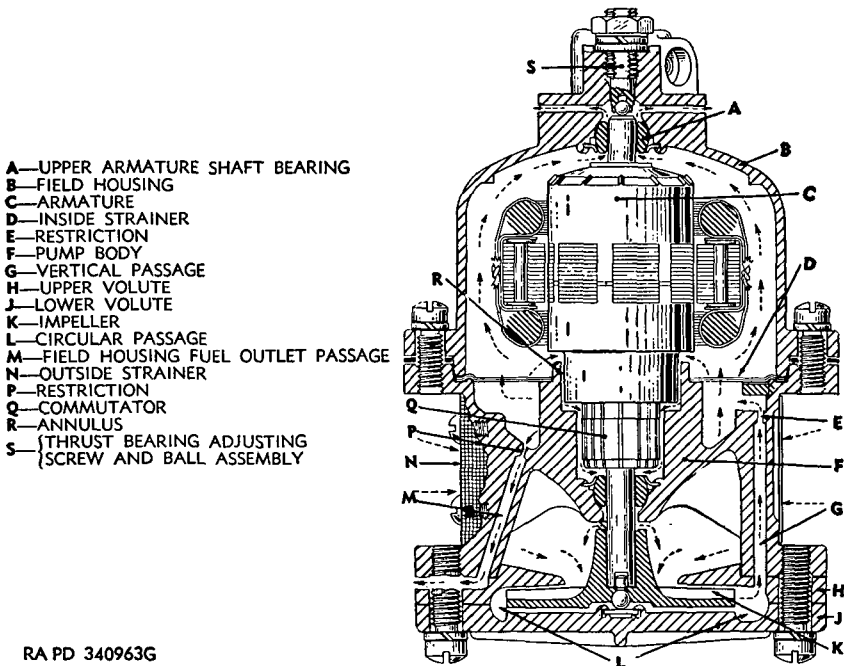

Figure 75. Cooling and lubricating circuit—sectional view through vertical passage.
b. *Cooling and Lubricating circuit* (fig. 75). From the circular passage (L) a vertical passage (G) conducts a small quantity of fuel under pressure through the restriction (E). Part of this fuel passes through the inside strainer (D) into the field housing where it circulates around the armature and upper armature shaft bearing in the manner shown, cooling and lubricating moving parts. Upon returning from the field housing this fuel passes through the restriction (P) and escapes through the field housing drain passages into the tank. The remainder of the fuel that comes through restriction (E) circulates around the commutator and bowl armature shaft bearing eventually escaping either through the commutator drain passages